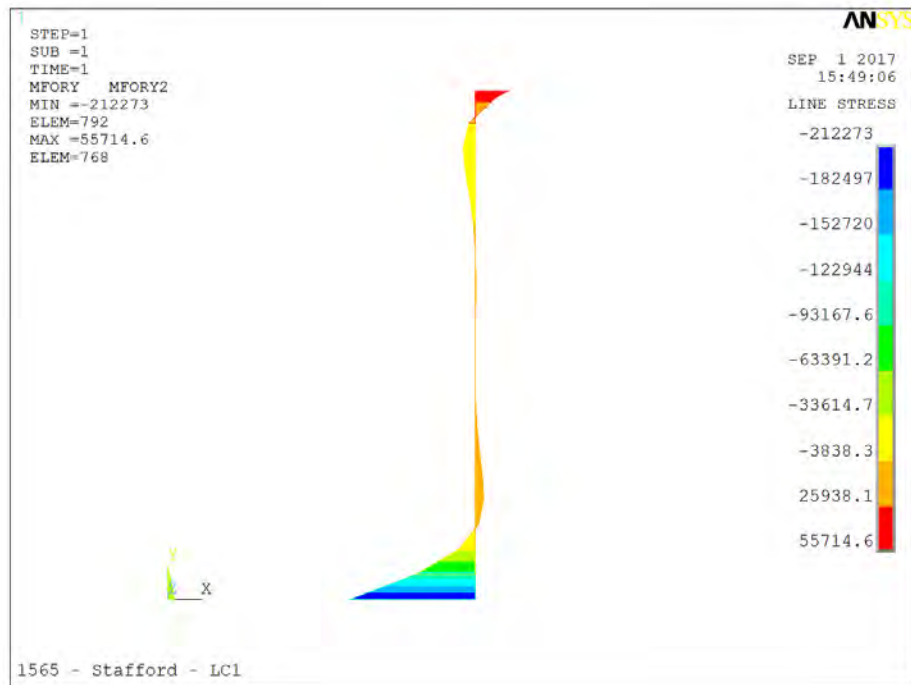

Fig. 1E
- **Fig. 1E - Wall shear force (lbs/360)**